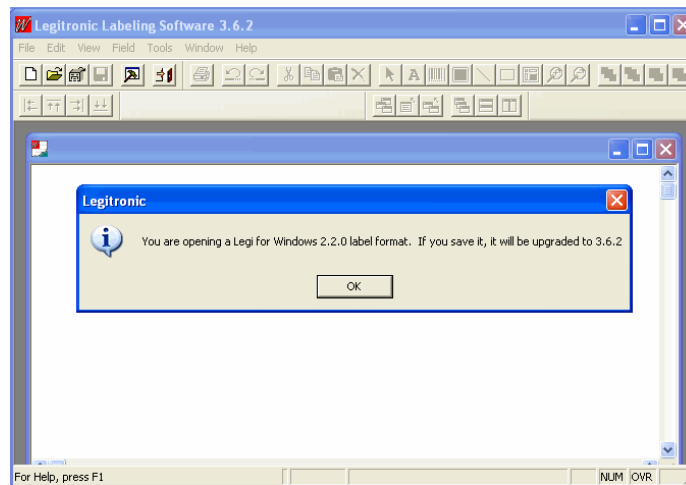

Figure 4-11
4.3.3. Click **[OK]** when the message *You are opening a Legitronic Labeling Software for Windows 2.2.0 label format. If you save it, it will be upgraded to 3.6.X* appears. (Figure 4-11)